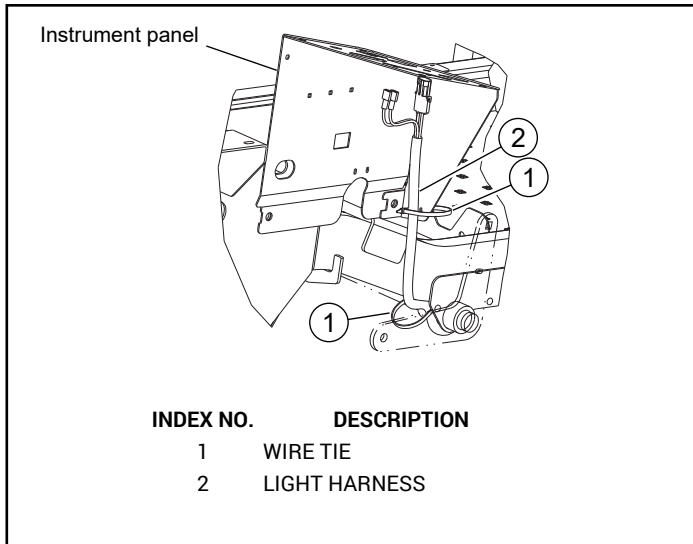

FIG. 10
13. Insert a wire tie through the two slots located in the instrument panel and secure the light harness to the instrument panel. FIG. 10